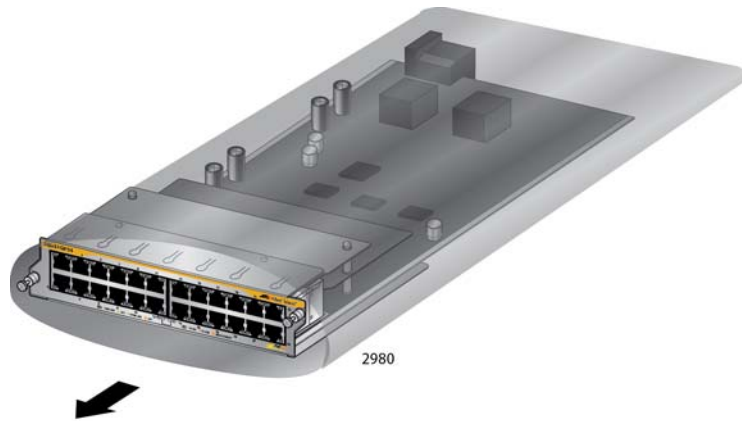

Figure 72. Removing an Ethernet Line Card from the Anti-static Bag
3. Carefully remove the Ethernet line card from the anti-static bag. Refer to Figure 72 on page 135.